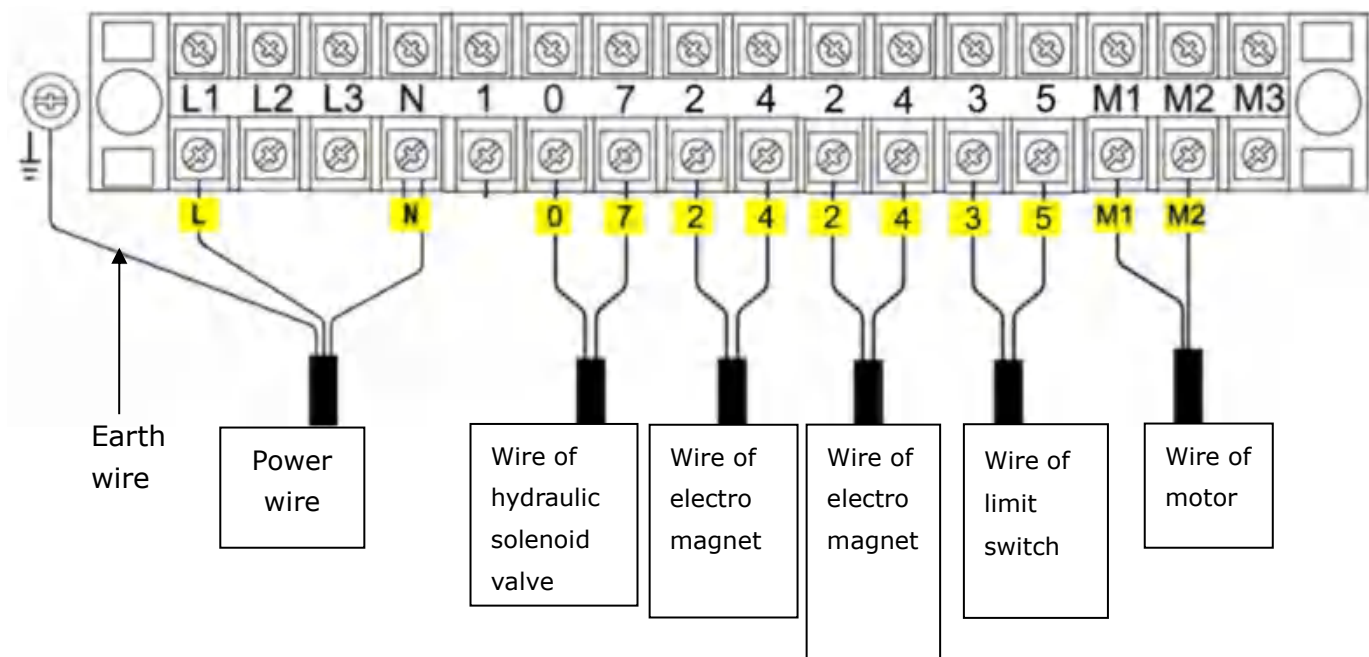

Fig. 34
3.1 Wire Connection diagram in the control box (See Fig. 34)